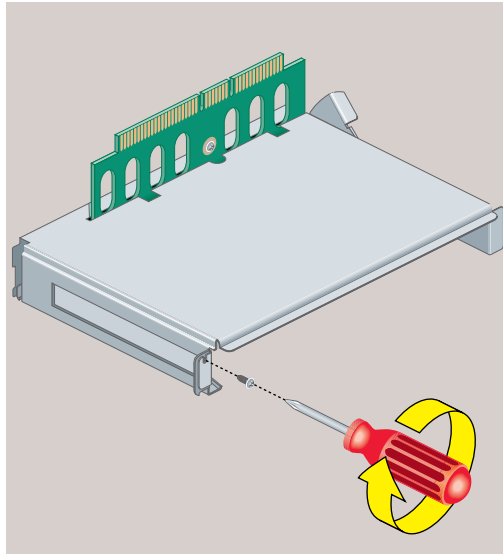

Figure 2-22 Replacing the Filler Panel and Screw on the PCI Tray
5. If you are installing another PCI board, see “Installing a PCI Board: R5000 Workstation” on page 34. Otherwise, replace the filler panel and screw (Figure 2-22). (You removed the panel and screw when you installed the board.)